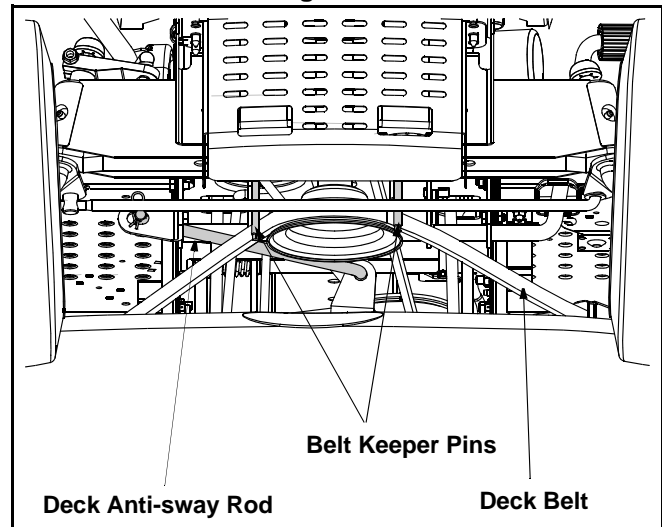
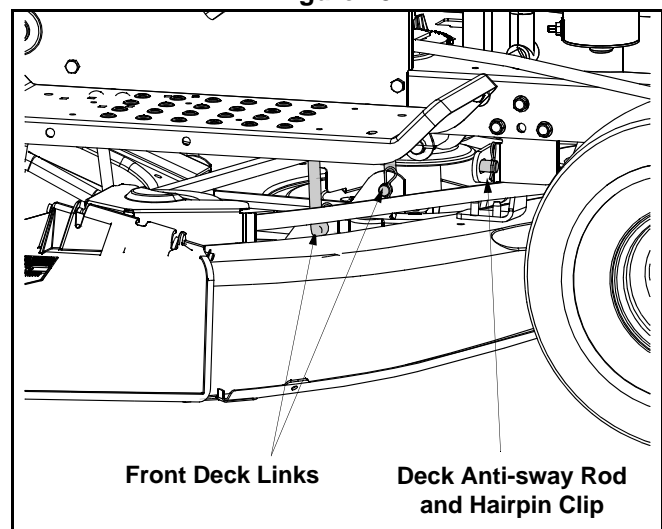

Figure 15
Figure 16
- Locate the two belt keeper pins, found on either side of the engine pulley, and use a 1/4-inch socket wrench to remove them from the lower frame. See Figure 15.
- Locate the deck anti-sway rod and front deck links found near the front of the cutting deck. See Figure 15 & Figure 16.
- Locate the two belt keeper pins, found on either side of the engine pulley, and use a 1/4-inch socket wrench to remove them from the lower frame. Refer to Figure 15.